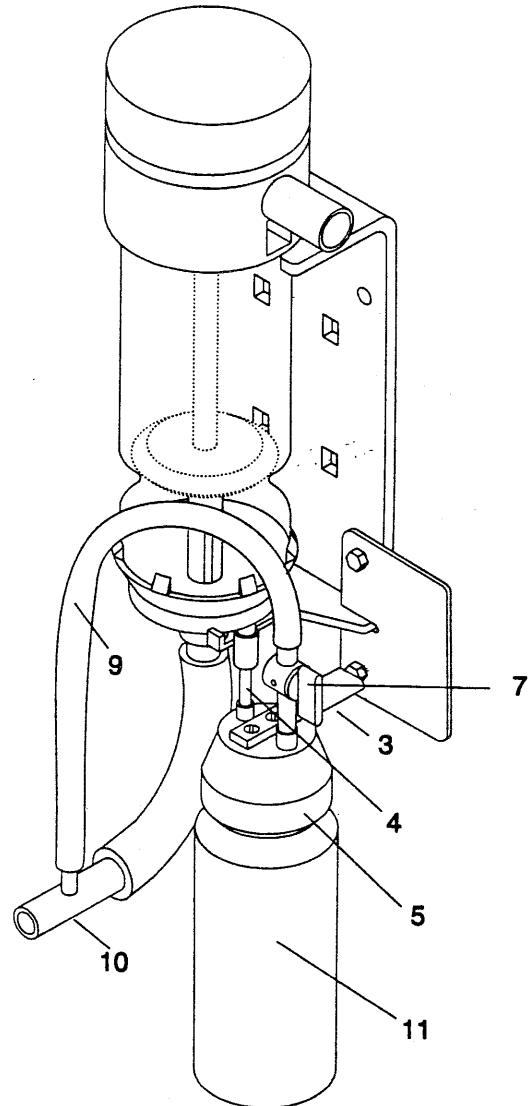

FIGURE 3 Sampling Hookup
- Use the short piece of silicon tube to connect the sample tube **4** to the sample tube on the meter base. Firmly insert the stainless steel bar on the rubber cap **5** into the support tube **3**. Refer to *Figure 3*.